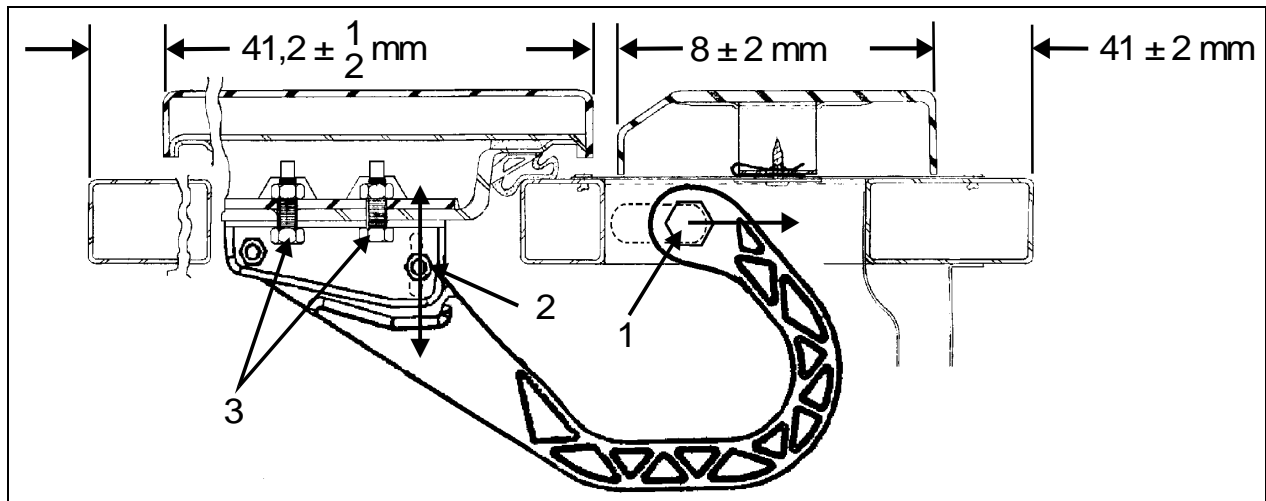

FIGURE 82: EVAPORATOR DOOR
5. Loosen nut (2, Fig. 82). Hinge allows the door to be shifted "IN or OUT".
7. Loosen screws (3, Fig. 82). Screws allow the door to be shifted "UP or DOWN".
2. Loosen nut (1, Fig. 82).
4. Tighten nut (1, Fig. 82).